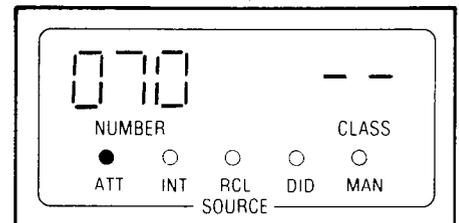

Fig. 351-1
- SOURCE display (Fig. 351-1) shows number of calling trunk and ATT lamps lit